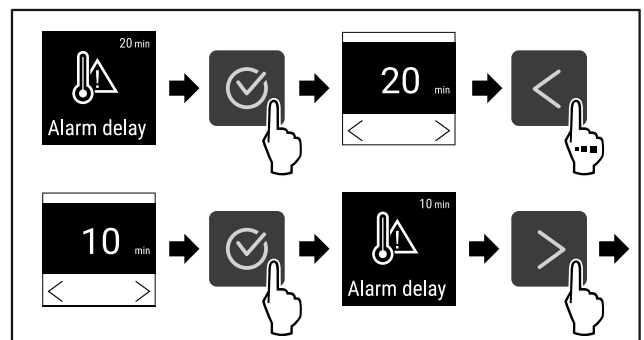

Fig. 115
- ▶ Complete steps (see Fig. 115).